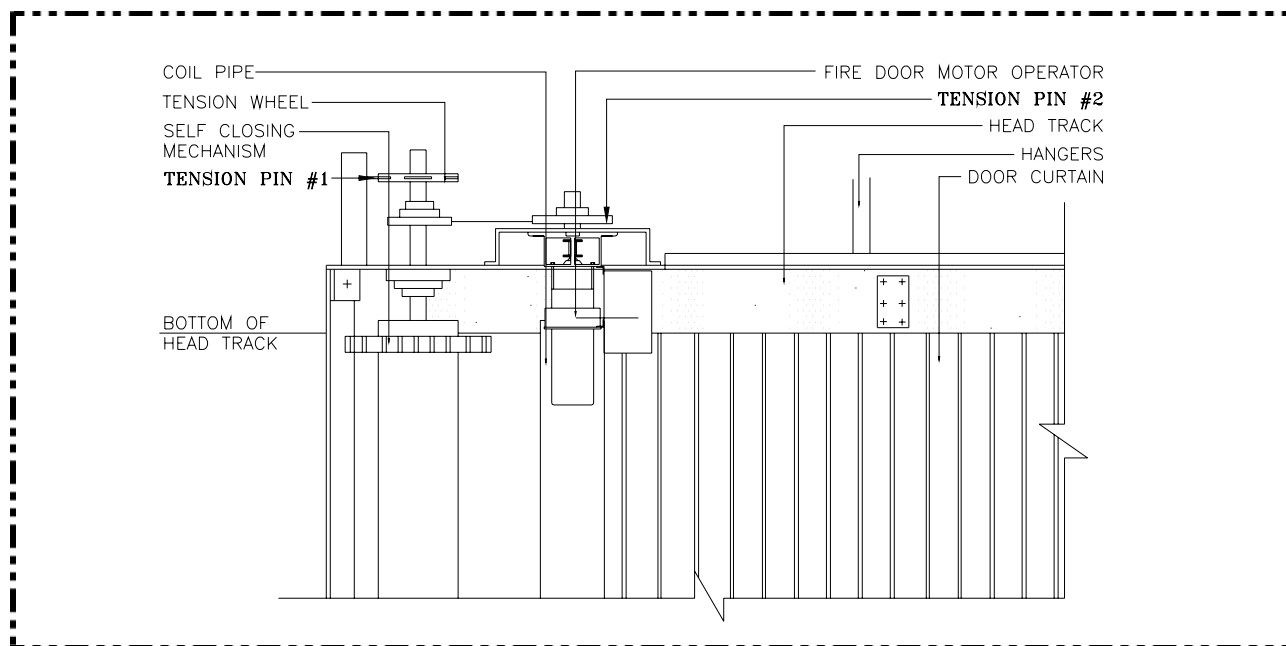

FIGURE 1
1. TENSION RETAINING PIN #1 MUST NEVER BE REMOVED (REFER TO FIGURE 1).
2. TENSION RETAINING PIN #2 MUST NOT BE REMOVED PRIOR TO POWER AND CENTRAL ALARM SYSTEM CONNECTION TO FIRE DOOR MOTOR OPERATOR AND MUST BE REMOVED PRIOR TO ANY OPERATION OF THE DOOR (REFER TO FIGURE 1).